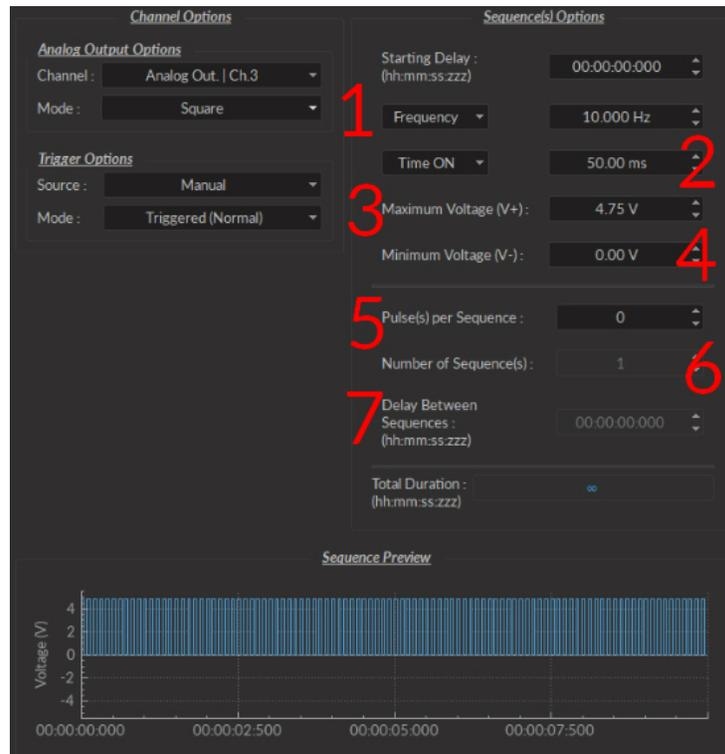

Figure 3.11: Channel(s) configuration window, Analog Output Square
- The **Square** channel mode (Fig. 3.11) creates a sequence of pulses with the minimum of the pulses at **V-** and the maximum of each pulse at **V+**. This includes all sequence options as the **CW** mode, with the following additions.
1. The **Frequency** (Fig. 3.11) sets the frequency (in Hz), which is the number of pulses per second. The frequency can also be changed to the **Period**. For example, a signal at 10 Hz (frequency) will output one pulse every 100 ms (period), whereas a signal at 0.5 Hz (frequency) will output one pulse every 2 seconds (period).
2. The **Time ON** (Fig. 3.11) defines the length of a single pulse. This time can also be converted to a **Duty Cycle**, which indicates the % of the period the pulse duration corresponds to.
3. The **Maximum Voltage (V+)** (Fig. 3.11) defines the maximum voltage of each pulse, in volts. The signal cannot go beyond +4.75 V.
4. The **Minimum Voltage (V-)** (Fig. 3.11) defines the minimum voltage of each pulse, in volts. The signal cannot go beyond -4.75 V.
5. The **Pulse(s) per sequence** (Fig. 3.11) set the number of pulses per sequence. If it is set to 0, the number of pulses will be infinite.
6. The **Number of sequence(s)**(Fig. 3.11) sets the number of times that the sequence will be repeated.
7. The **Delay between sequences** (Fig. 3.11) sets the delay between each sequence.